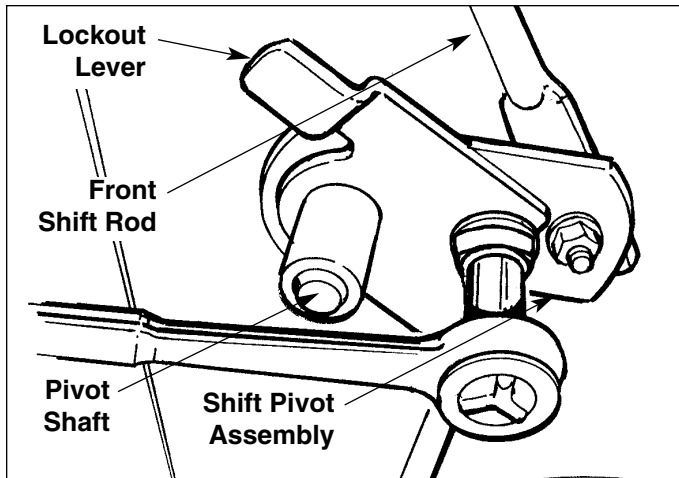

Figure C-18. Lockout Lever/Shift Pivot Assembly
1. Remove the cotter pin and washer that secure the rear end of the clutch rod to the idler arm (Figure C-18). (The clutch rod and rod guide can be left in place while the idler arm assembly is being serviced.)